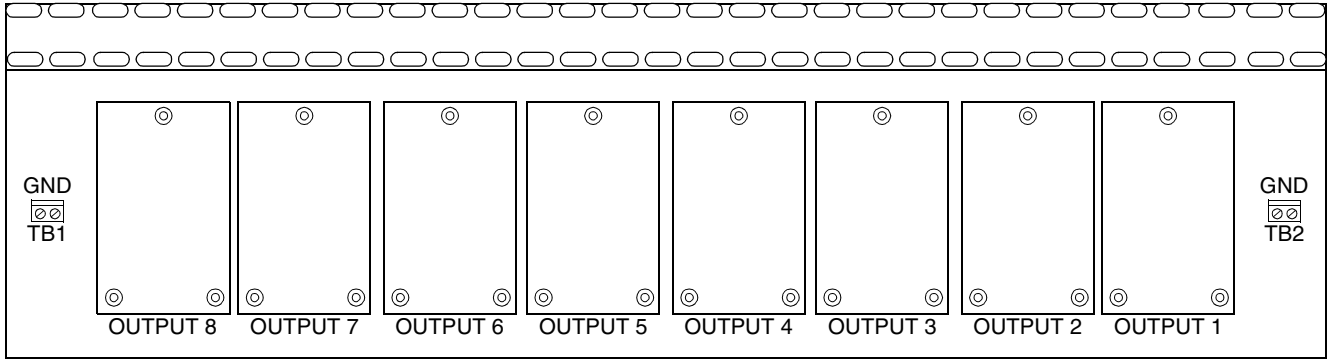
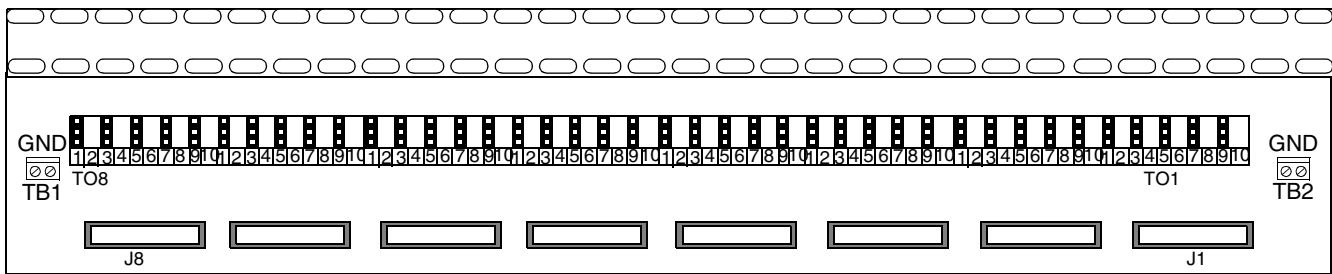
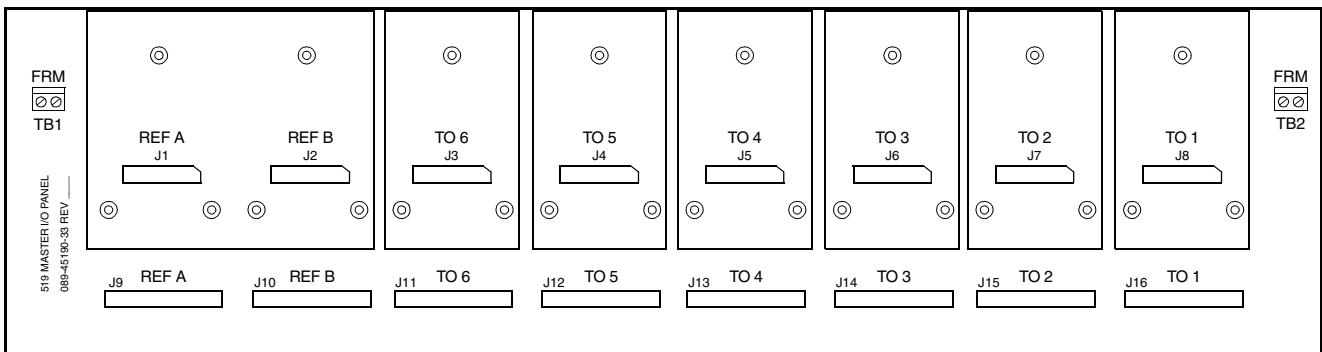
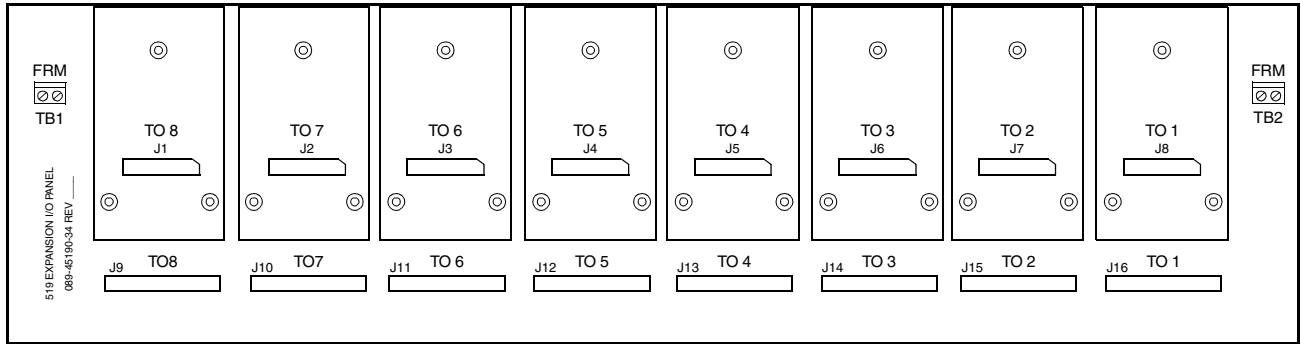

Figure 7. ANSI-Class MMP
Figure 8. Wire-Wrap Panel
Figure 9. ITU-Class MMP
Figure 10. ITU-Class Output MMP
**3.31** An interface panel can be an ANSI-Class MMP (Figure 7), a wire-wrap panel (Figure 8), an ITU-Class MMP (Figure 9), or an ITU-Class Output MMP (Figure 10). A supplied ribbon cable carries signals between the connector position on the interface panel and the slot connector on the rear panel of the shelf.